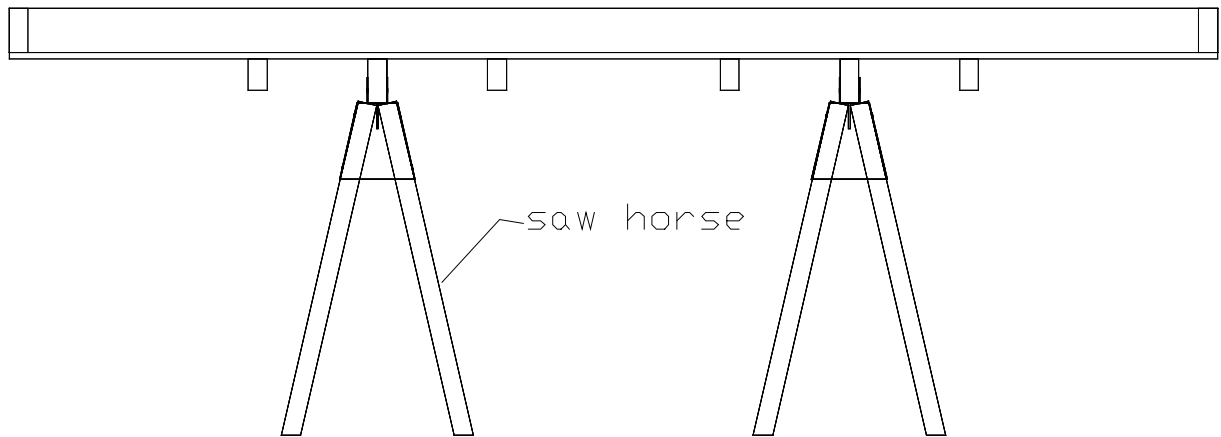

Figure 4
Step 4) The table is not designed to support the weight of a person---**DO NOT STAND ON THE TABLE.** Center, clamp, level, and screw the uprights onto the outside face of the small Field Borders as shown in Figure 4. Be sure each joint is strong. With the help of another person, situate the cross beam on top of the two uprights and screw it down. Hang the shop light by its chains from the center of the cross beam.